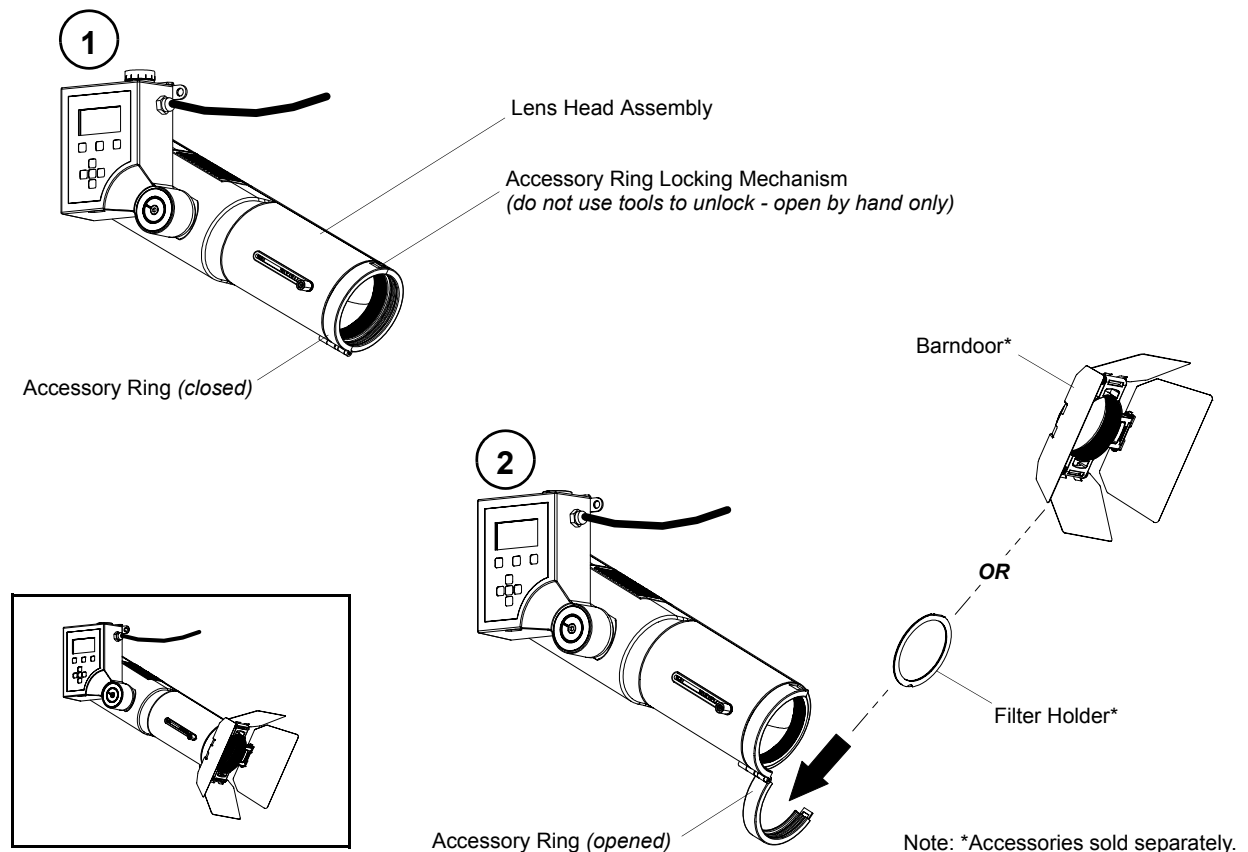

Figure 7: PL1 LED Accessory Installation
Step 2. At luminaire head assembly, as shown in **Figure 7**, open Accessory Ring holder by gently prying locking mechanism up with finger.